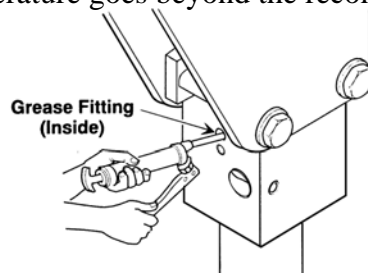

Figure 2. Hammer Lubrication Point
4. The hammer must be greased daily before use. Ten shots of grease with a grease gun is adequate. The hammer should be greased every 2-3 hours during operation. (See Figure 2)